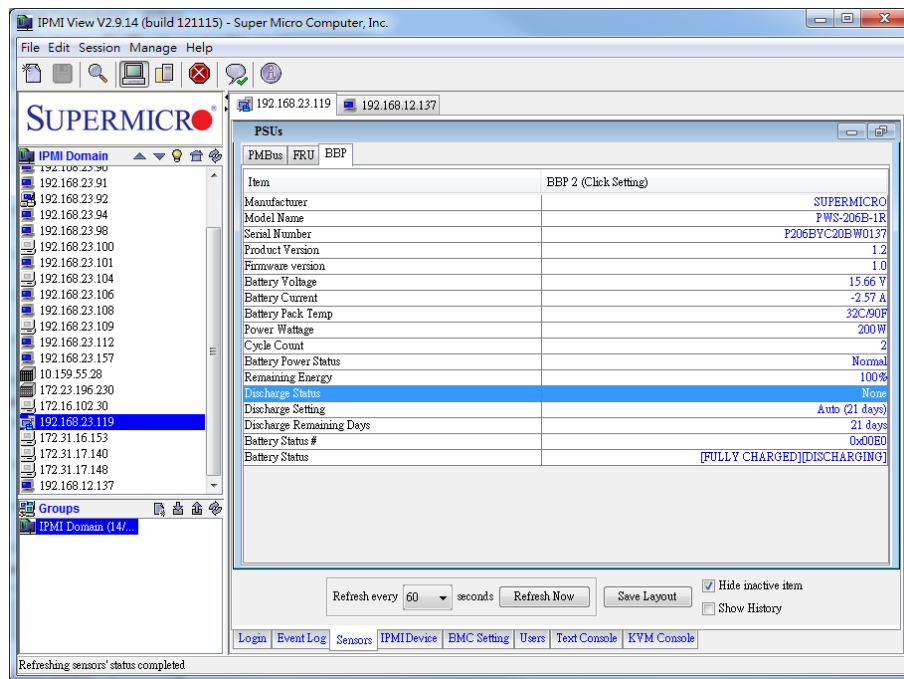

Figure 5-3
1. The battery can be automatically or manually discharged. In the PSU dialog box (see Figure 5-3), click the **BBP** tab.